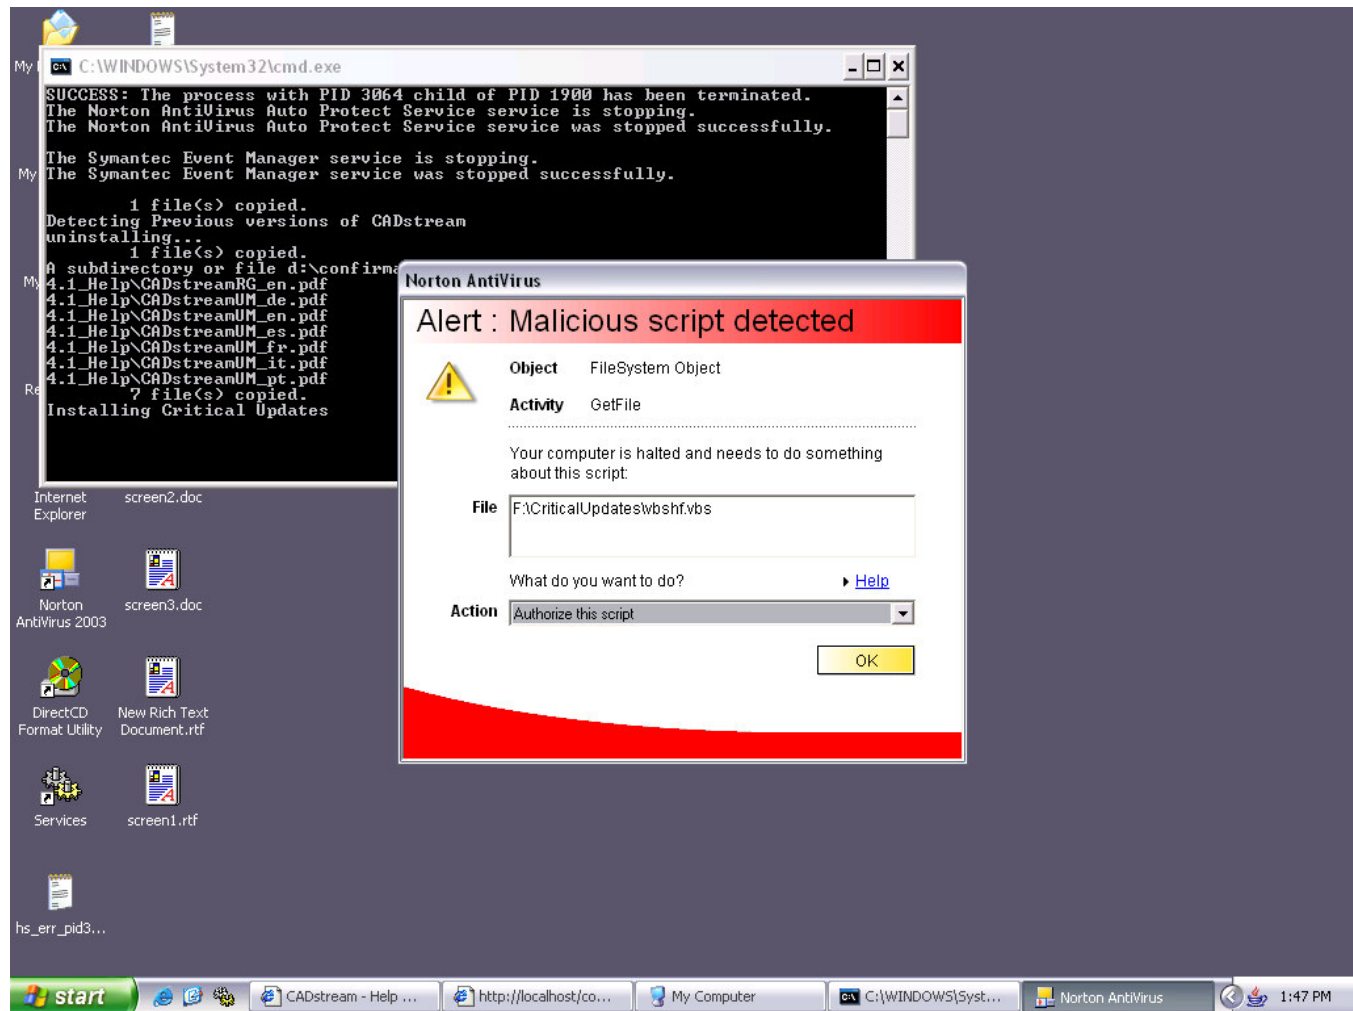

FIGURE 2: SECOND NORTON ANTIVIRUS WINDOW
4. In Norton Anti-Virus window select: Action – Authorize this script and click OK. See figure 2